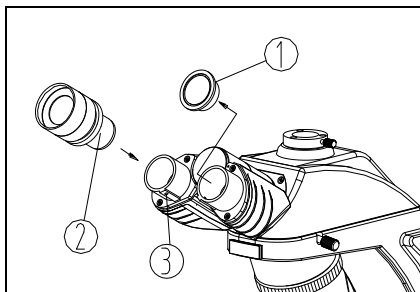

Fig. 6
1. Take down the cover of eyepiece tube①.
2. Insert the eyepiece② into the eyepiece tube, until it touches the surface (see Fig. 6).
3. When adjusting diopter by adjustable eyepiece, lock eyepiece with hexagon lock-screw③ to avoid the eyepiece group② rotating in eyepiece tube, as the figure shows.